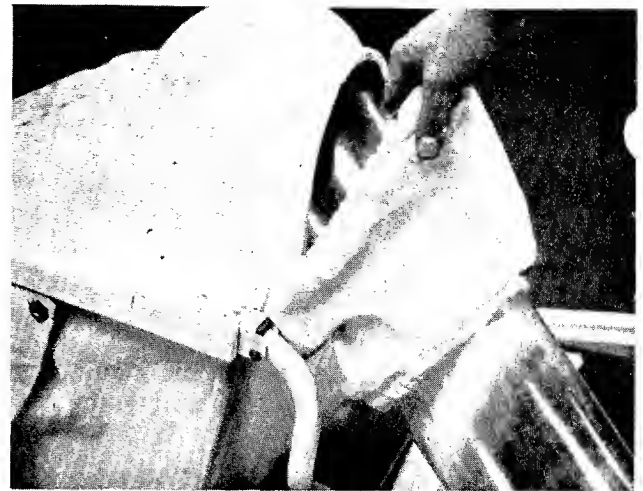
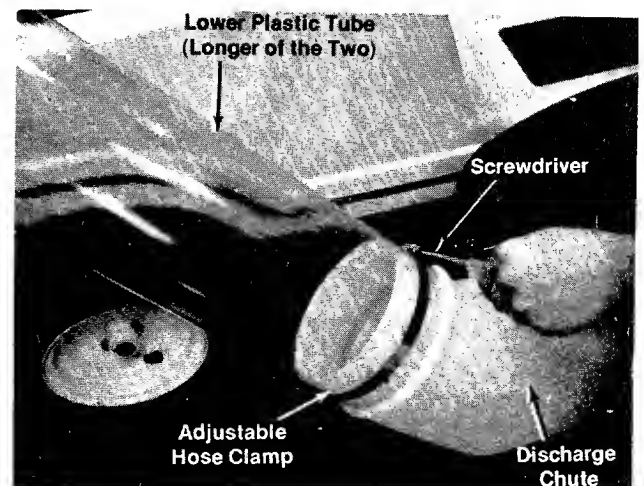

FIGURE 10
FIGURE 11
1. Bag is made with a special sleeve in the front designed to fit over the exit end of the upper plastic tube and over the receiving opening in the shroud cover. See figure 10.
2. Slip the adjustable hose clamp (L) over the bottom of lower plastic tube.
3. Slide the bottom end of plastic tube assembly over the discharge chute. See figure 11.
1. Insert shorter of two tubes through sleeve in front of grass bag and into shroud. Install sleeve over shroud and tube. See figure 10.
2. Slip the adjustable hose clamp (L) and the chute tube collar over the bottom of lower plastic tube.